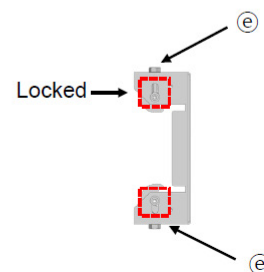

Figure 26. Rear Clamp
6. Tighten the bolts of the rear clamp. (Figure 26, e)